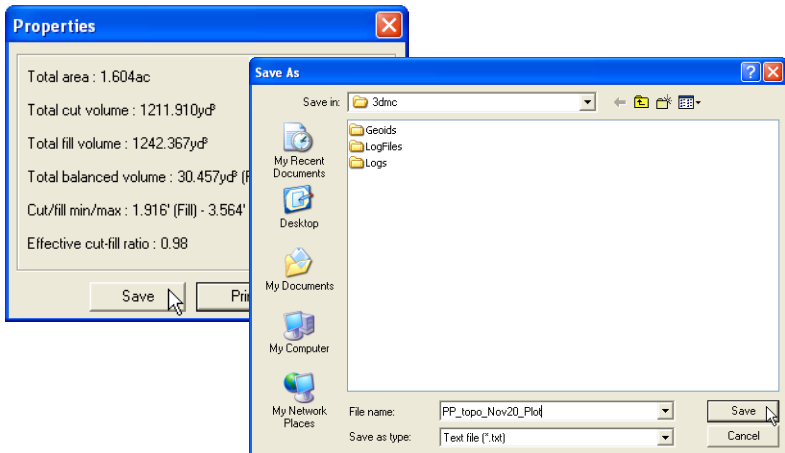

Figure 9-4. Save Plot Properties As Text File
1. Click **Cut/Fill ► Plot properties** and press **Save** (Figure 9-4 on page 9-3).